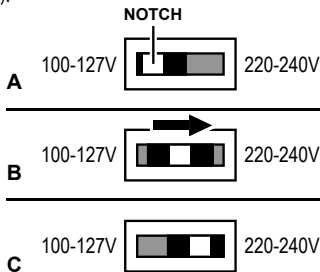

FIGURE 1
1. Locate Voltage Selector, recessed inside slot at rear of Main Body. Note the white open notch in middle of Voltage Selector (FIGURE 1-A).
3. Carefully insert tip of pen into white notch. Slide Voltage Selector to the right, towards 220-240V label (FIGURE 1-B).
**IMPORTANT:** Be sure that Voltage Selector is moved as far to the right as possible for voltage setting to take effect correctly. Voltage Selector should appear as shown (FIGURE 1-C).